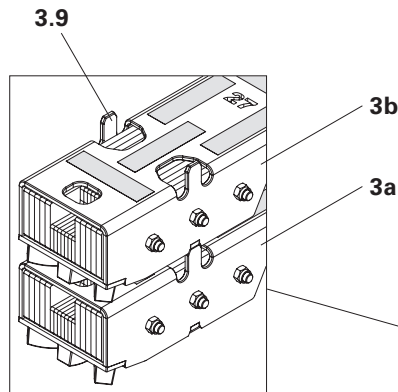

Fig. C2.01a
When stacking the SKY-ANCHOR FLEXBASE (3), make sure that the stacking aid (3.9) engages fully in the recess of the SKY-ANCHOR FLEXBASE (3b) above it. (Fig. C2.01a)